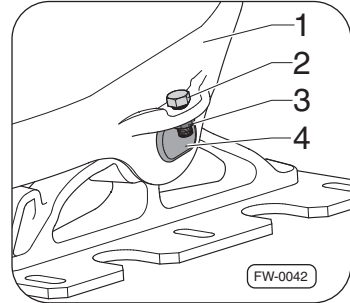

Fig. 27 · Mounting the fifth wheel plate
1. Using a lifting device, position the fifth wheel plate ⇒Fig. 27, –item 1– on the mounting brackets fitted on the tractor (observe direction of travel).
2. Slide the bearing pins in ⇒Fig. 27, –item 4– sideways on both sides.
3. Tighten the bolts (2x) ⇒Fig. 27, –item 2– and nuts (2x) –item 3– by hand.
- Tighten the nuts (2x) ⇒Fig. 27, –item 3– to the specified tightening torque ⇒Page 30.